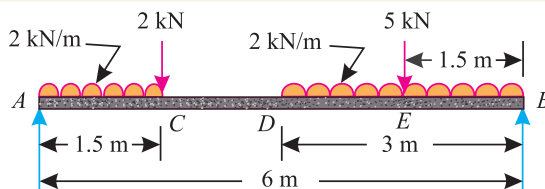

Fig. 12.14.
3. A simply supported beam AB of span 6 m is loaded as shown in Fig. 12.14.